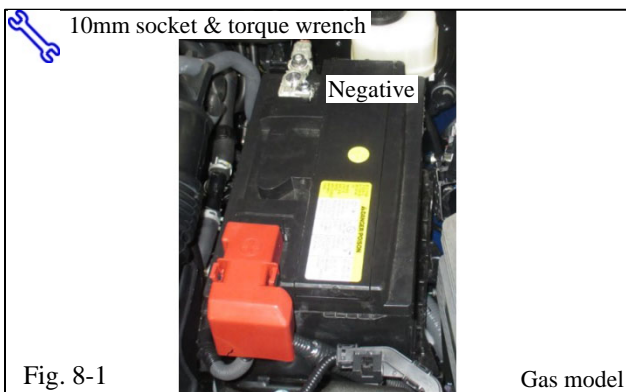
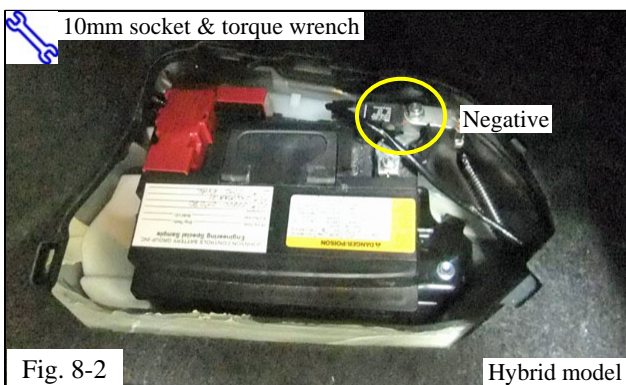

Fig. 8-1
Fig. 8-2
- (a) Tighten the negative battery cable (Fig. 8-1 and Fig. 8-2).
- (1) Position the negative battery cable at the original factory position.
- (2) Tighten the nut.
- +** (3) Do not touch the positive battery terminal with any tool when replacing the cable.